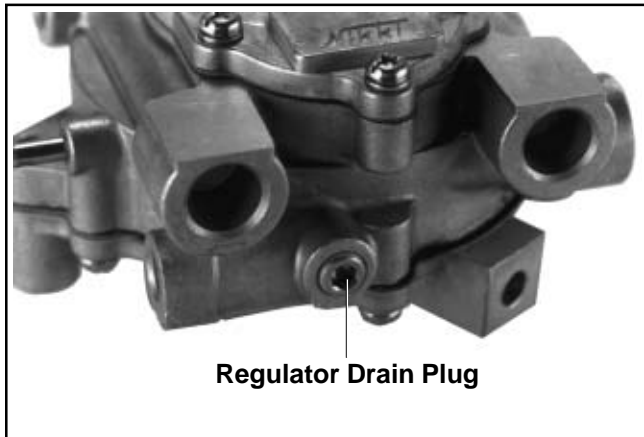

Figure 5A-23. Regulator Drain Plug (some models).
3. Remove the 1/8" pipe plug from bottom of regulator and drain any accumulated deposits. See Figure 5A-23.